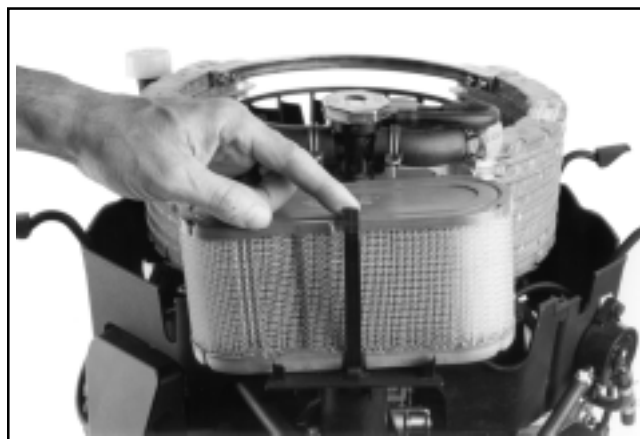

Figure 4-8. Unhooking Retainer Strap.
- Unhook the filter element retaining strap and remove the paper element from the air cleaner base. See Figure 4-8.